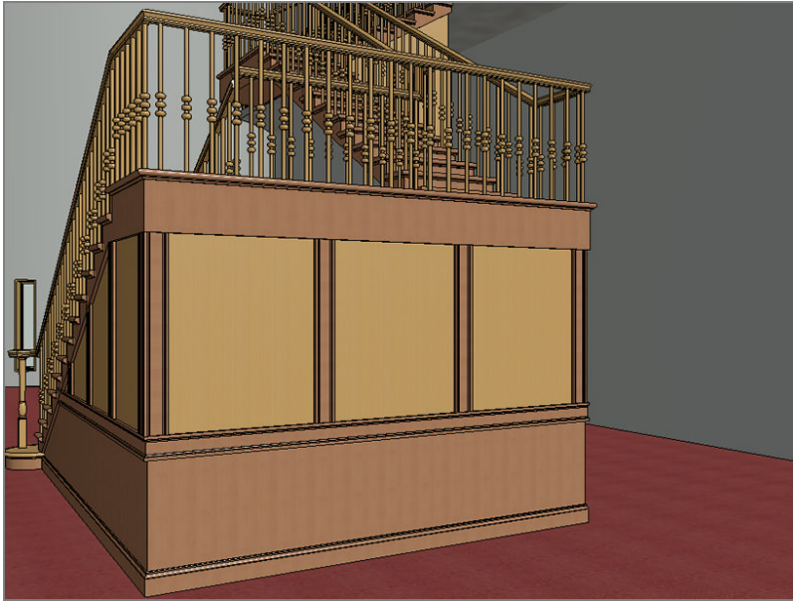

FIGURE 16.21: The final walls with the sweeps added
18. Add vertical rails at around 3'-0" (900mm) to the other walls, as well. Your walls should look like Figure 16.21.